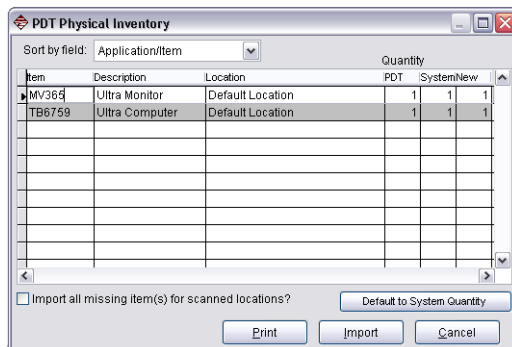

Figure 6-10 PDT Physical Inventory
- **Physical:** If you are retrieving data from a physical inventory application, click **Physical** to proceed to the **PDT Physical Inventory** dialog box, as shown in Figure 6-10.